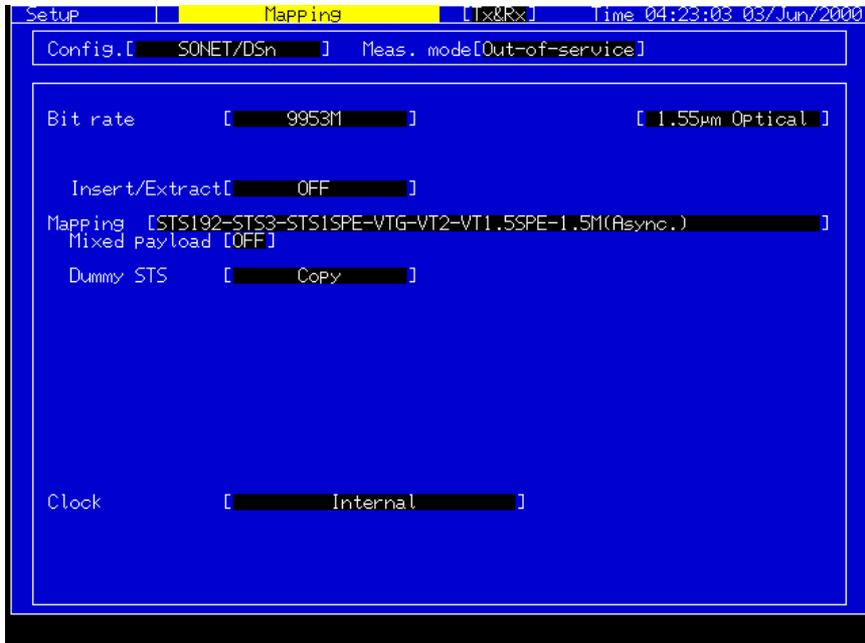

Figure 2.3: SETUP Main Menu Screen parameter setting
(2) SETUP Main Menu Screen:
- Setup the parameters as in **Figure 2.3** below of the example